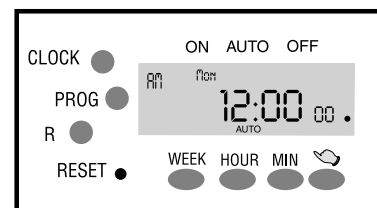

Figure 16
5.1 To reset clock time and/or programs use a blunt pin or a ball point pen and press “**RESET**”. Do not use this function unless absolutely necessary. It will clear all the memory inside the timer. (See Figure 16)